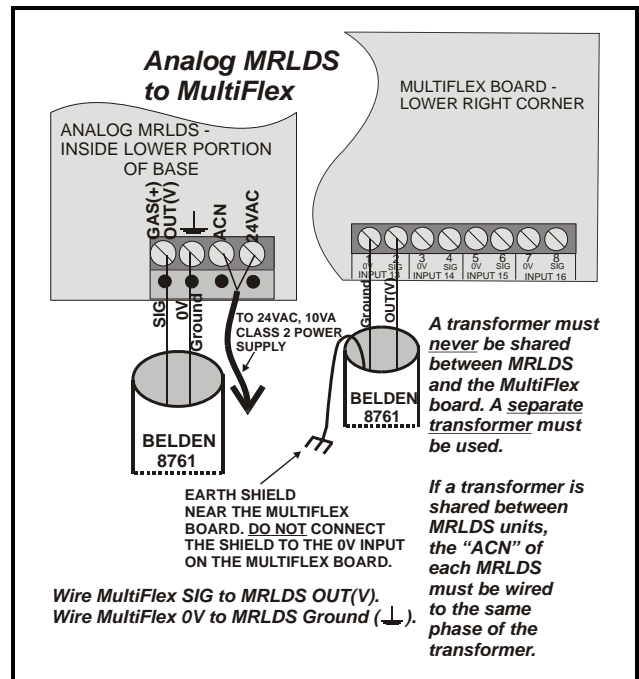
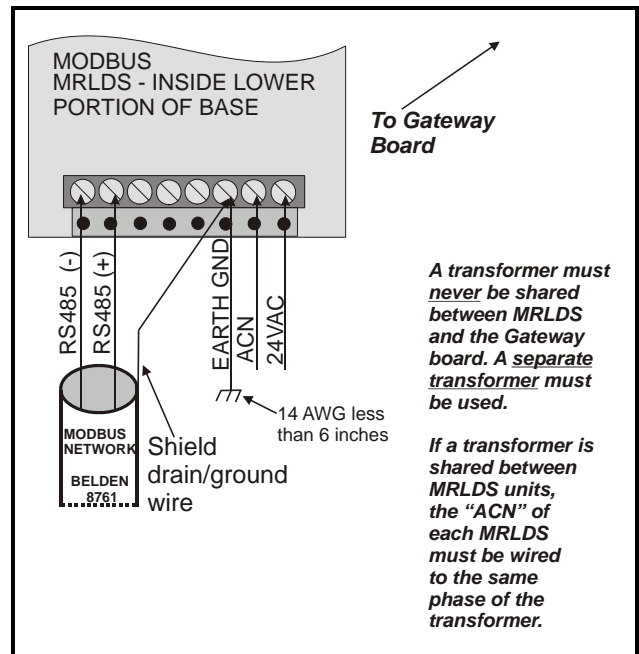

Figure 3-2 - Analog MRLDS Wiring
Figure 4-2 - Modbus MRLDS Wiring
3. Connect the wires to the terminal connector located in the base, as indicated in *Figure 4-2* and *Figure 3-2*.